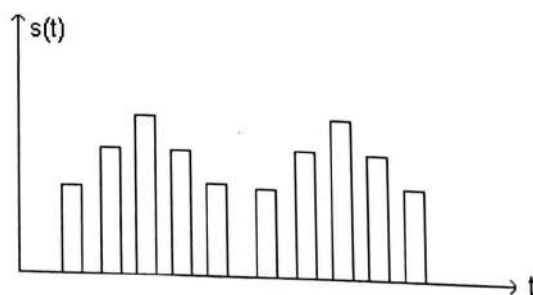

Fig: 2 Single polarity PAM
7. Feed PWM waveform to the circuit of Fig.2 and observe the resulting demodulated waveform.
5. During the demodulation process, give the PPM signal as input to the demodulated circuit as shown in Fig.2.